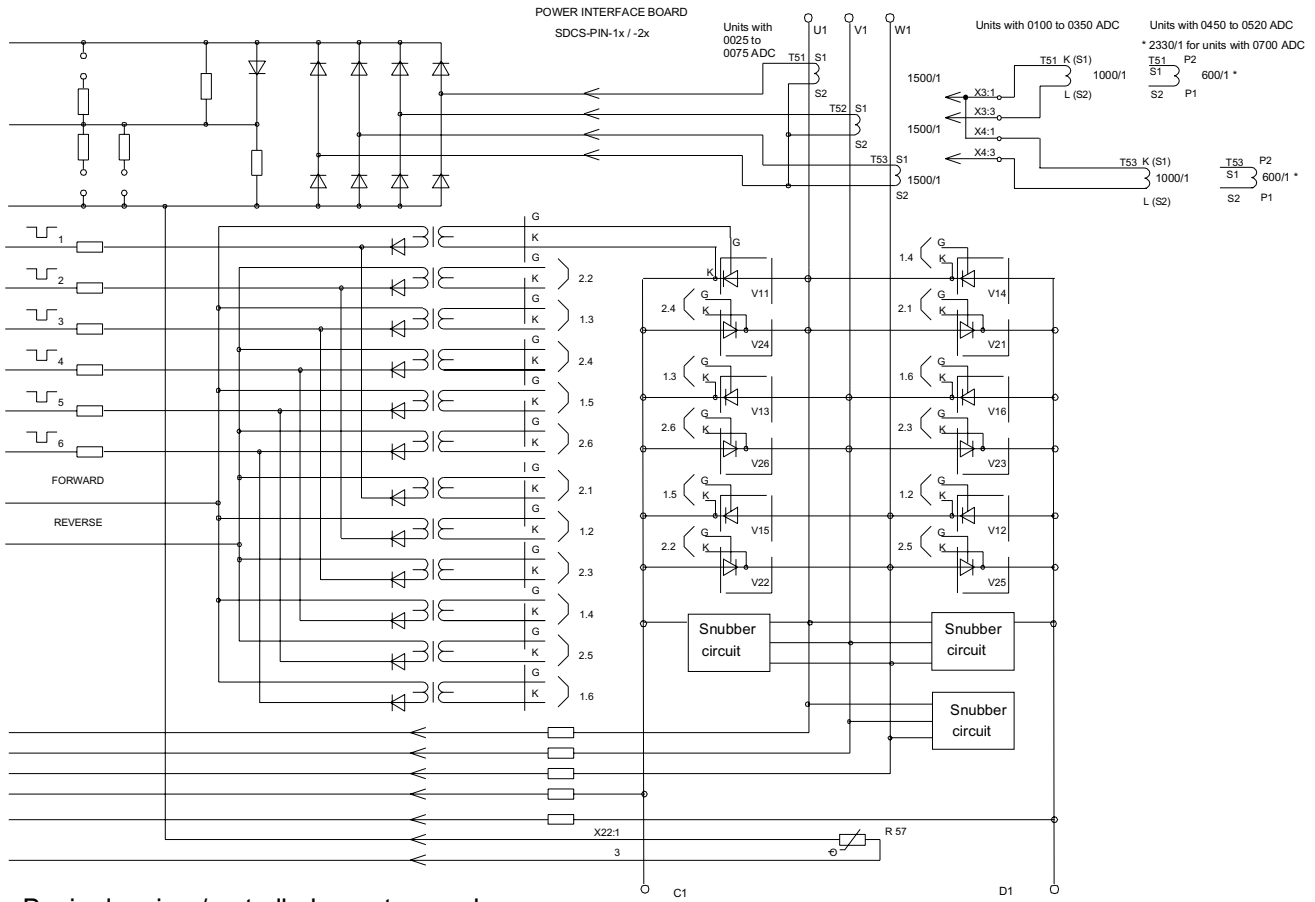

Figure 4-4 Basic drawing of DCS 502/602 units with SDCS-PIN-1x/-2x
- In case of a blown fuse, the faulty thyristor or the faulty pair of thyristors are already isolated at one side from the others and therefore the faulty branch is known (see *Figure 4-4*).